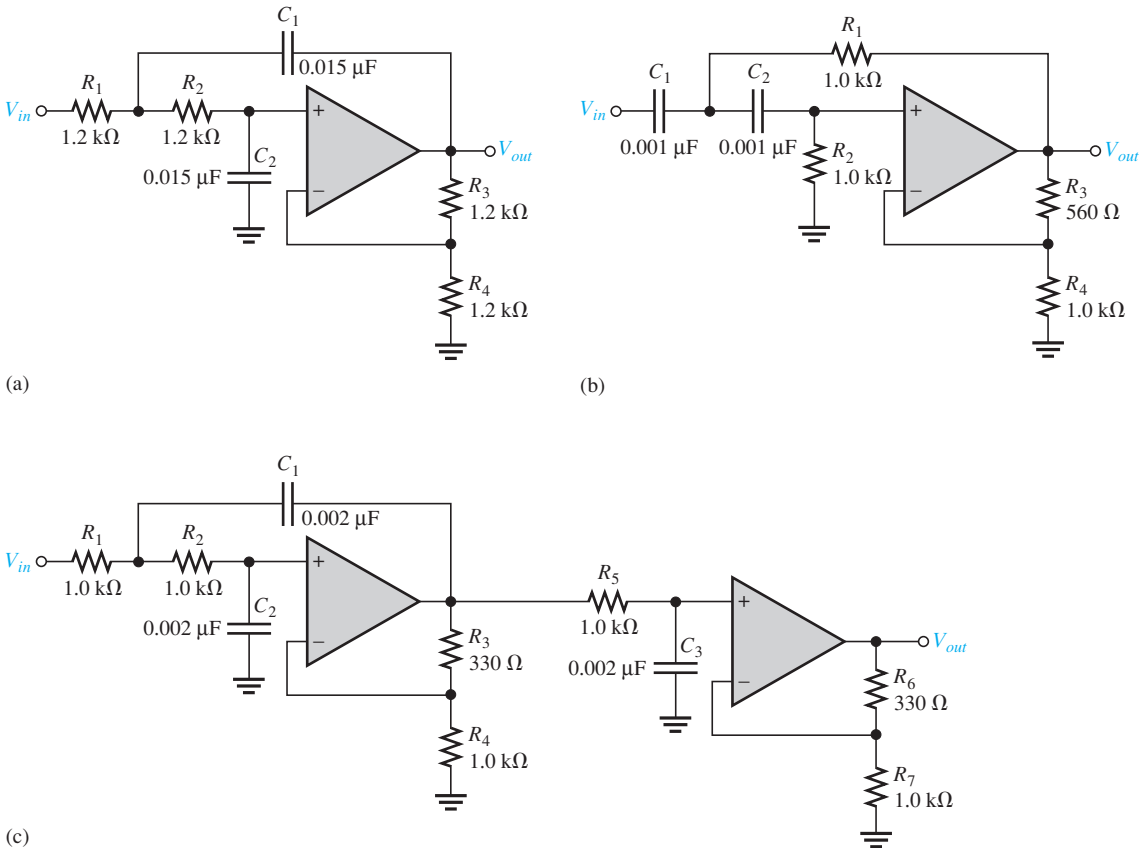

FIGURE 9-29
7. What is the damping factor in each active filter shown in Figure 9-29? Which filters are approximately optimized for a Butterworth response characteristic?
8. For the filters in Figure 9-29 that do not have a Butterworth response, specify the changes necessary to convert them to Butterworth responses. (Use nearest standard values.)